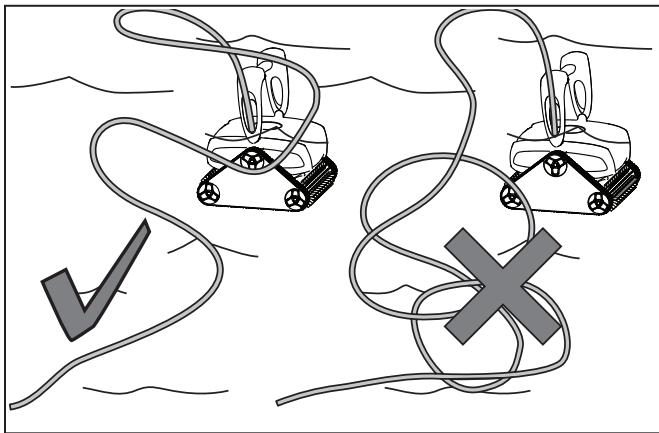

Figure 13. Spread Floating Cable Over the Pool
4. Spread the floating cable over the pool, making sure there are no kinks or coils in the cable (see Figure 13).